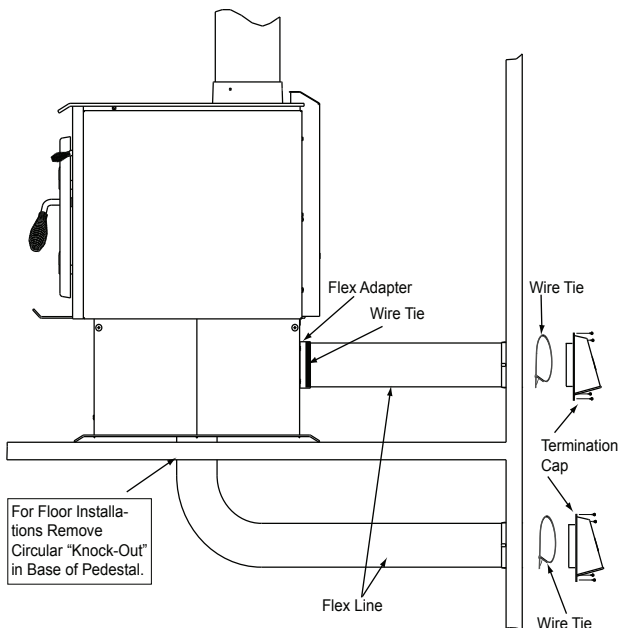

Figure 38.1 - Floor & Rear Installation
2. Using a #2 Phillips screw driver attach the flex adapter to the appliance using 4 screws. Secure with Wire Tie (**Figure 38.1**).
5. Floor Installation Alternative: In some instances you may not be able to install the flex pipe as show in Figure 38.1.